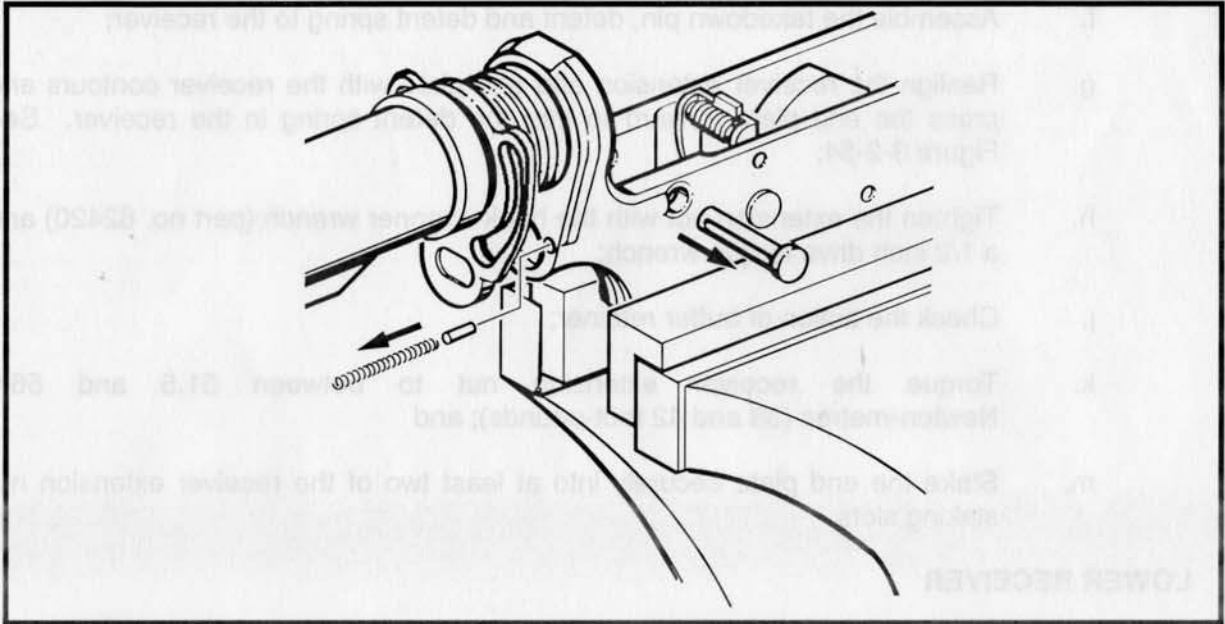

Figure 3-2-53 Removing the Takedown Pin, Detent and Spring
- d. Remove the detent spring, detent and takedown pin. See Figure 3-2-53;